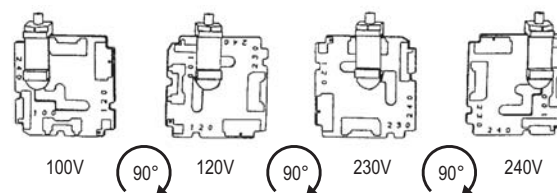

Figure 5. Voltage card selector orientation.
- Orient the selector card so that the desired input voltage is readable at the bottom, shown in Figure 5. Then move the indicator pin to point UP, opposite the indicated voltage. Seat the pin assembly in the notch on the board edge.